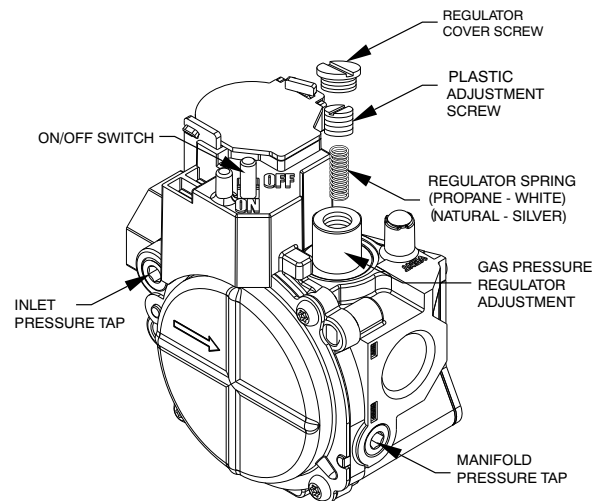

**Fig. 16 – Single-Stage Gas Valve**
1. Remove regulator cover screw over plastic adjustment screw on gas valve (See Fig. 16).
2. Turn plastic adjustment screw clockwise to increase gas input, or turn plastic adjustment screw counterclockwise to decrease input (See Fig. 16). Manifold pressure must be between 3.2 and 3.8 IN. WC.
3. Replace regulator cover screw on gas valve (See Fig. 16).